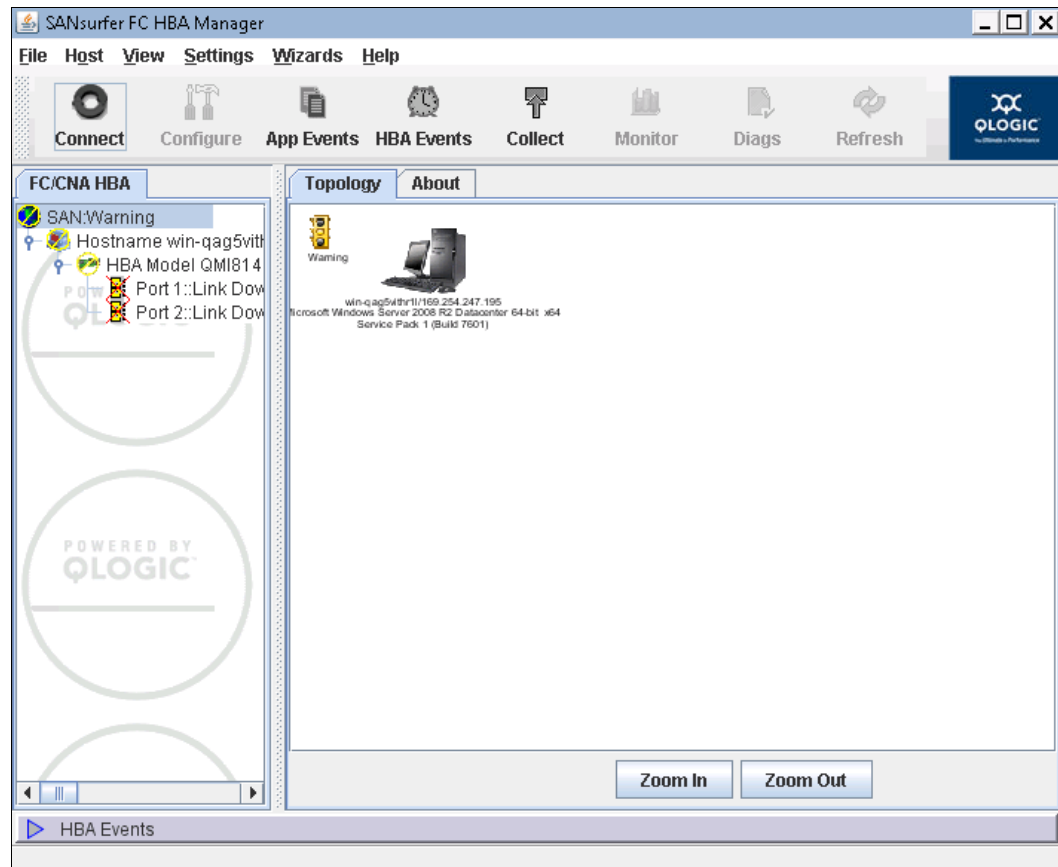

Figure 7-54 SANsurfer Management window
4. From the left **FC/CNA HBA** tab, select the adapter you want to update (Figure 7-54).